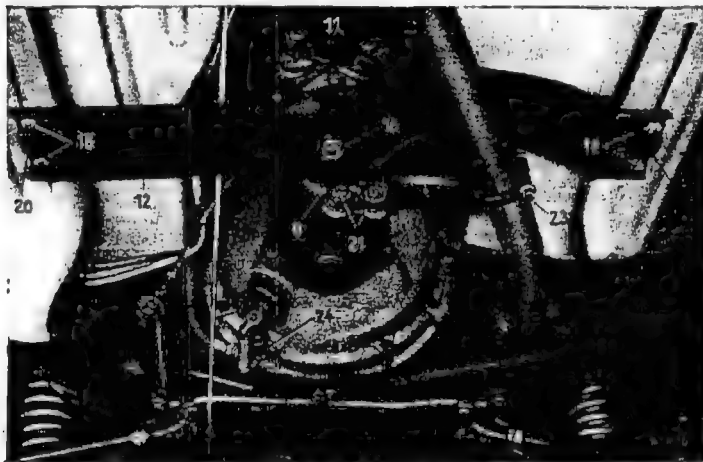

Fig. 41-1/1
1. Mark the position of the support (12) of the rear engine suspension in relation to the chassis base panel. Support the transmission, then unscrew the engine support (11) at the transmission and the support (12) on the chassis base panel and remove together with the rubber mounting (Fig. 41-1/1).
4. Unscrew the two hexagon screws (6) fastening the bearing bracket (3) for the propeller shaft intermediate bearing to the chassis base panel (Fig. 41-1/5).